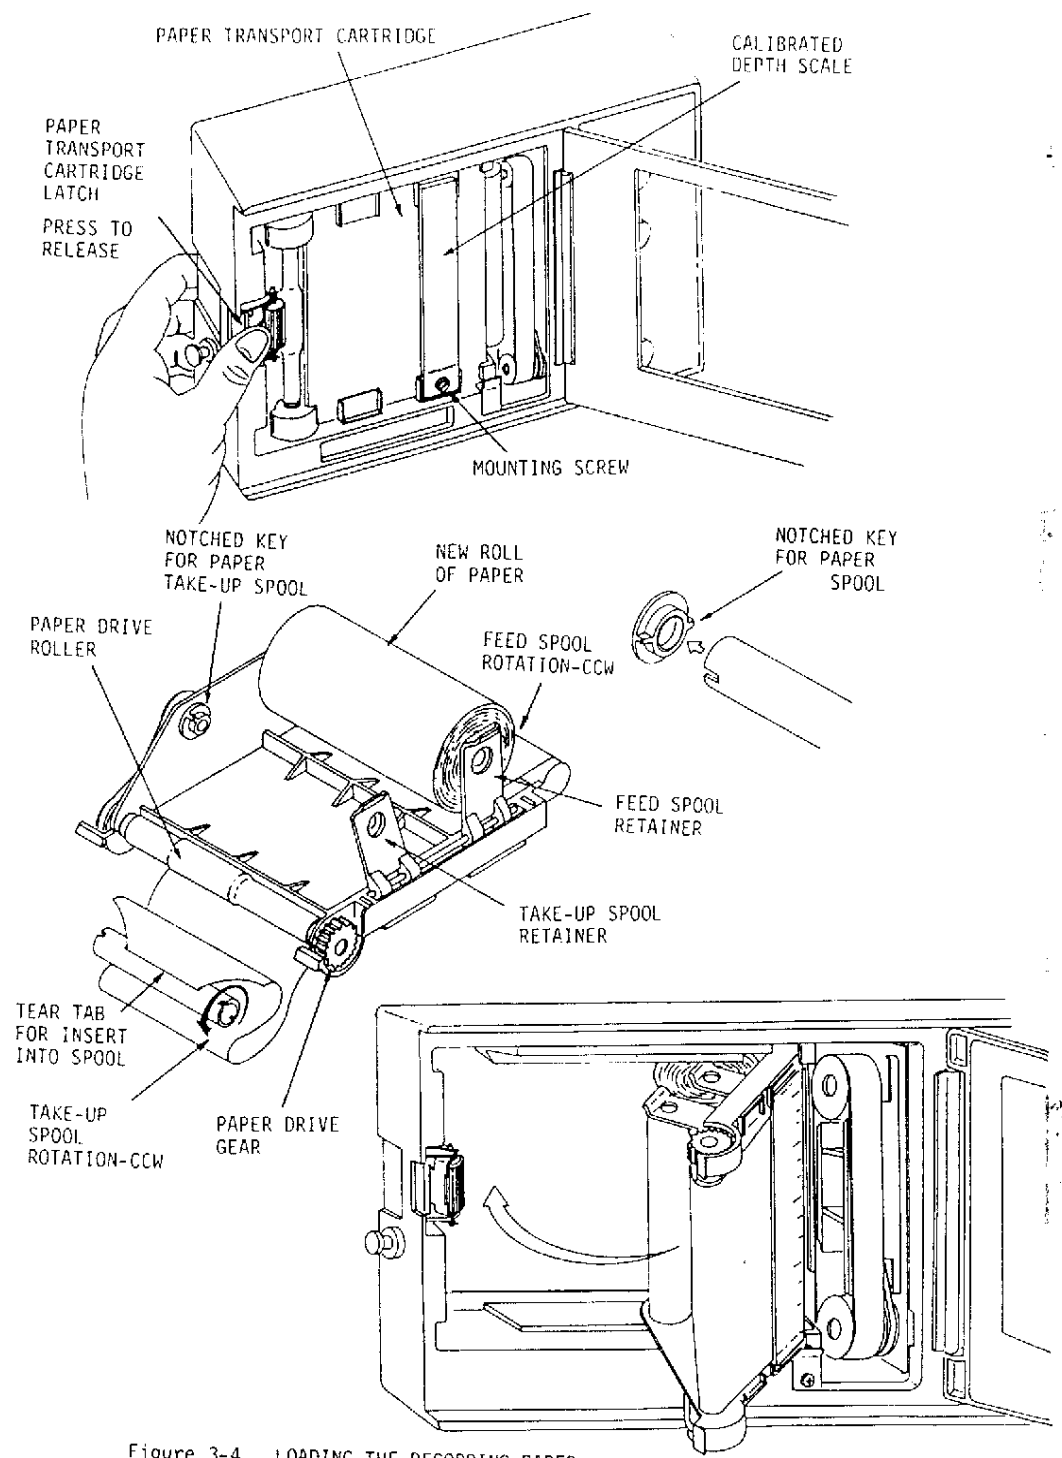

Figure 3-4 LOADING THE RECORDING PAPER
Before operating the unit, be sure that the recording paper is installed and properly loaded: See Figure 3-4.
4. Hold the paper transport cartridge with one hand so that it will not fall out when the transport cartridge latch is released. See Figure 3-4.
7. To install a new roll of chart paper (See Figure 3-4),
- c. Open the new roll of recording paper and unwrap the loose end approximately 12 inches. Position the new roll of paper so that the direction of feed from the new roll will be counter clockwise as shown in Figure 3-4.
- d. Install the new roll of paper by mounting it between the paper feed notch key and the feed spool retainer. Be sure the paper spool notch is engaged into the notch key and that the paper will unroll counterclockwise as shown in Figure 3-4.